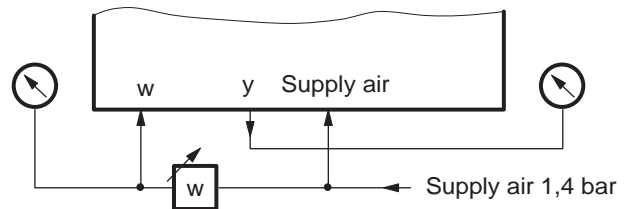

Fig. 35: Test circuit
- g) Connect the positioner as shown in the test circuit in Fig. 35. Connect supply air of 1.4 bar.